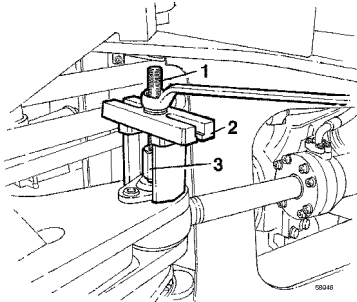

Figure 3
- Detach the steering cylinder piston rods, see Figure 3.